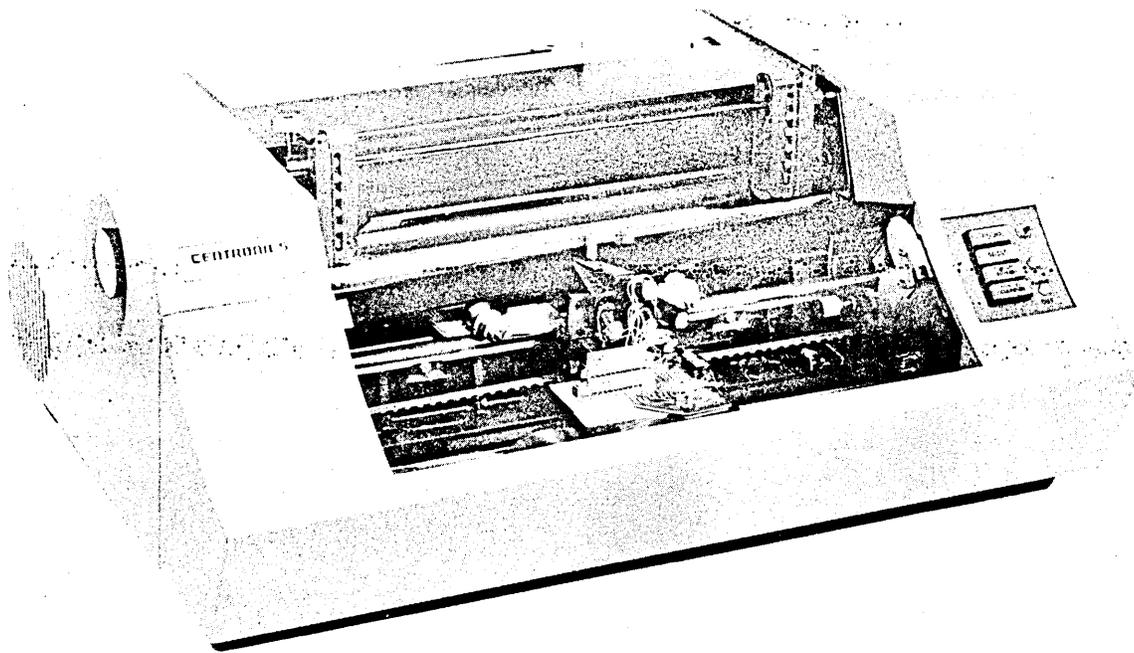

Figure 1-1. MODEL 101A PRINTER (FRONT COVER REMOVED)
1.1 GENERAL DESCRIPTION (Figure 1-1)